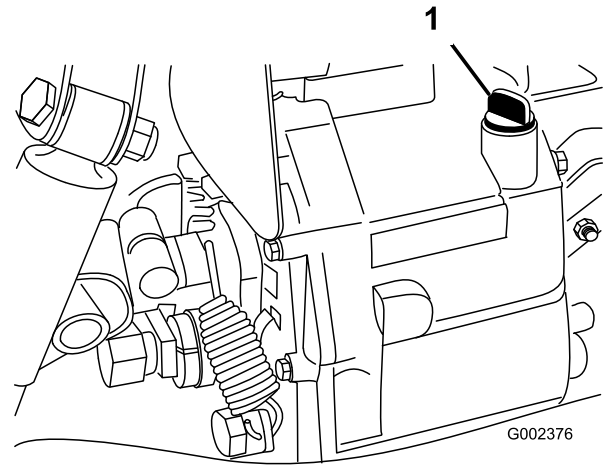

Figure 68
4. Clean the area around the dipstick (Figure 68).